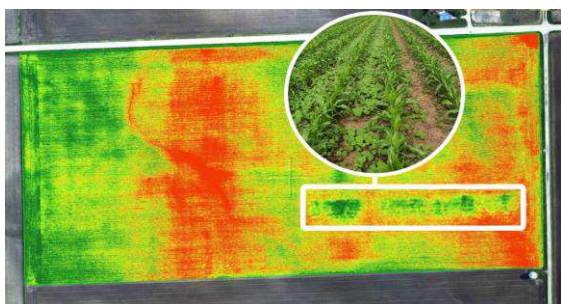

Fig. 3. Monitoring farmland using infrared sensors
b. **Infrared Sensors** for monitoring of agricultural land (fig. 3)